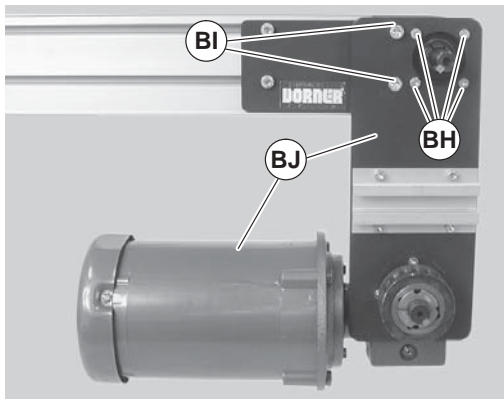

**Figure 43**
- d. Remove taper-lock screws (Figure 43, item BF) on the driven pulley (Figure 42, item BE). Insert one (1) of taper lock screws (Figure 43, item BF) in remaining hole (BG). Tighten screw (BF) until pulley is loose. Remove pulley, taper hub assembly and timing belt.